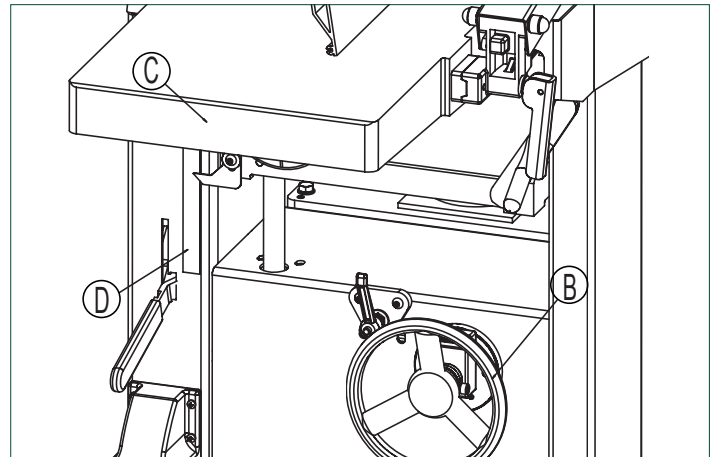

FIG. 7
- Workpieces of max. 225 mm thickness can be planed. Height adjustment is made with a handwheel (B, Fig.7). One full turn of the crank changes the height of the thicknesser bed (C, Fig.7) by 4 mm.
- Counter-clockwise turning = lowers the thicknesser bed. The set planing thickness is indicated on the scale (D, Fig.7).